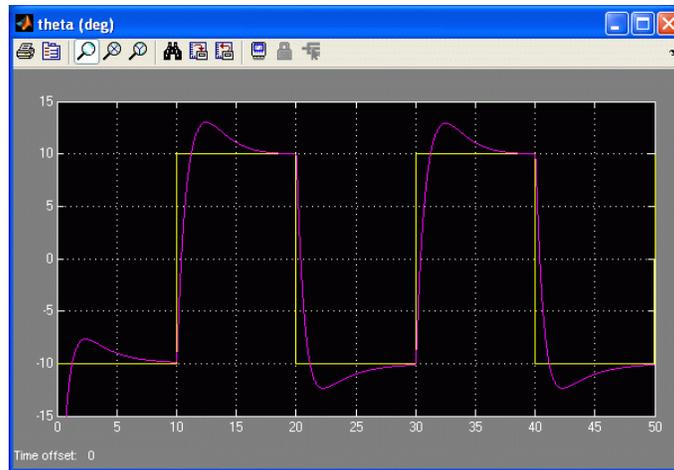
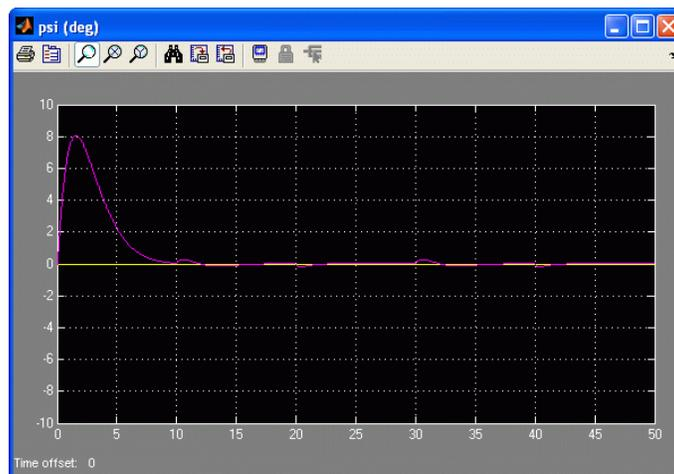
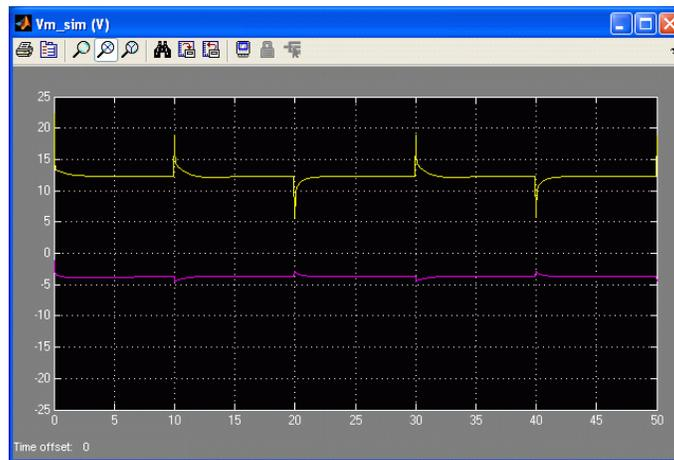

Figure 5.5: Simulated pitch response under pitch reference step using LQR+I
Figure 5.6: Simulated yaw response under pitch reference step using LQR+I
Figure 5.7: Simulated front and back motor voltage under pitch reference step using LQR+I
10. Ensure the pitch scope, θ (deg), the yaw scope, ψ (deg), and the motor input voltage scope, V_{m_sim} (V), are open. If not, go into the *Scopes* subsystem and double-click on those sinks.
12. Click on the *Start* simulation button, or on the *Start* item in the *Simulation* menu, to run the closed-loop system using LQR+I and the scopes should read as shown in Figure 5.5, Figure 5.6, and Figure 5.7. In each scope, the simulated pitch and yaw angles (purple trace) should track the corresponding desired position signals (yellow trace). Also, examine the voltage in the V_{m_sim} (V) scope and ensure the front (yellow plot) and back motor (purple plot) are not saturated. Recall that the maximum peak voltage that can be delivered to the front motor by the VoltPaq amplifier is ± 24 V.